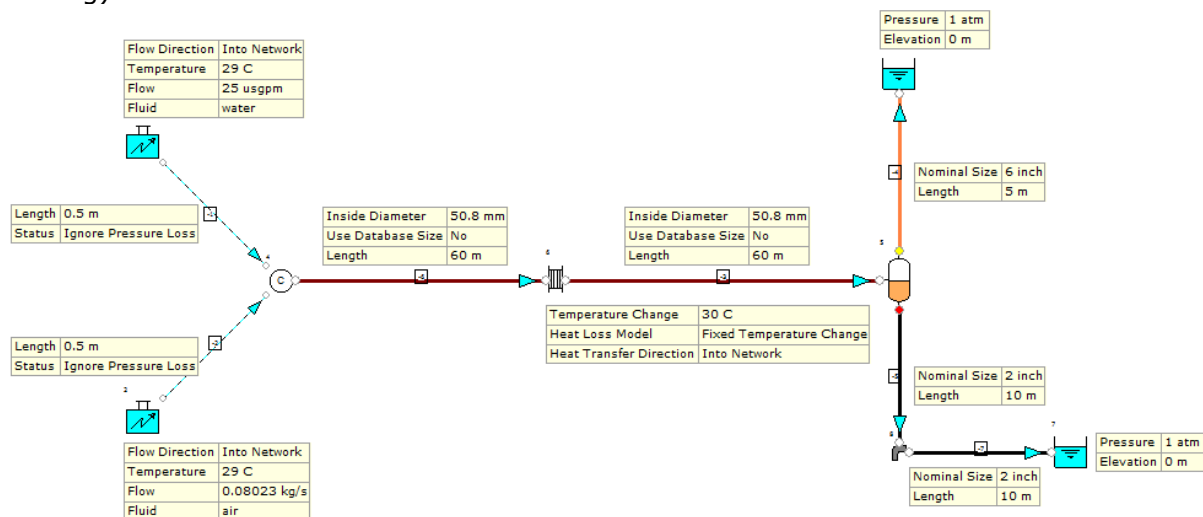

Figure 5.2.1: Constant Quality Air/Water System.
Let's build the model as shown in Figure 5.2.1 using schedule 40 steel pipework. The system contains a single plate heat exchanger with a design temperature increase of 30°C across element. The elevation of all nodes in this system will be zero (default setting).
Step 1: The first step is to lay out the model as per Figure 5.2.1. Place two *Known or Assigned Flow* nodes (available from the *Boundaries* tab) on the flowsheet to represent the two system inlets.
Now we can consider the pipes. We need to define the lengths as shown in Figure 5.2.1 and described in Table 5.2.1 using the *Input Inspector*.